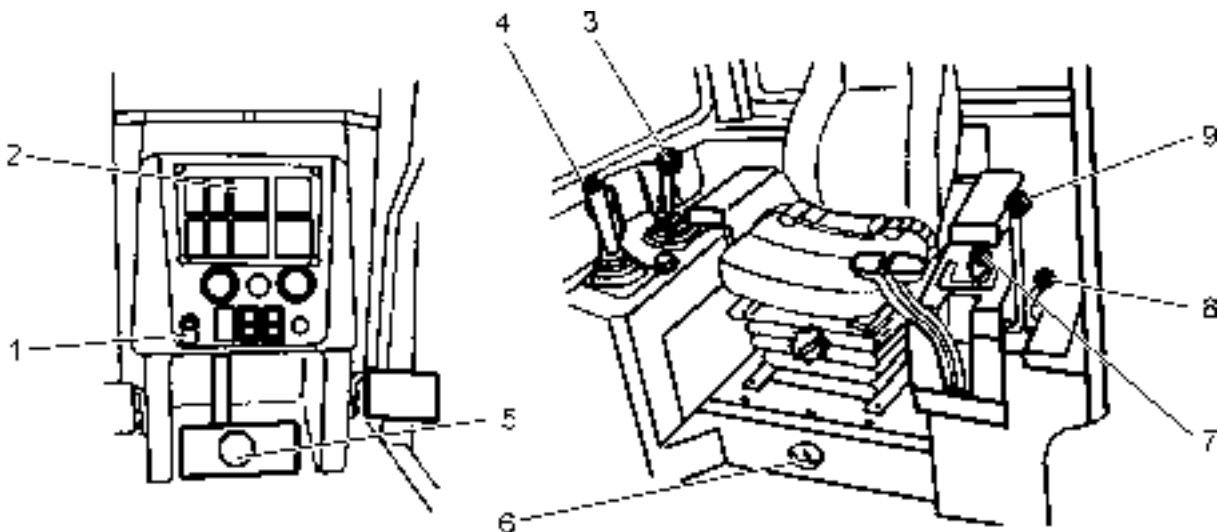

Fig. 4.15. Stopping the Engine
4.7. STOPPING THE ENGINE (Fig. 4.15)